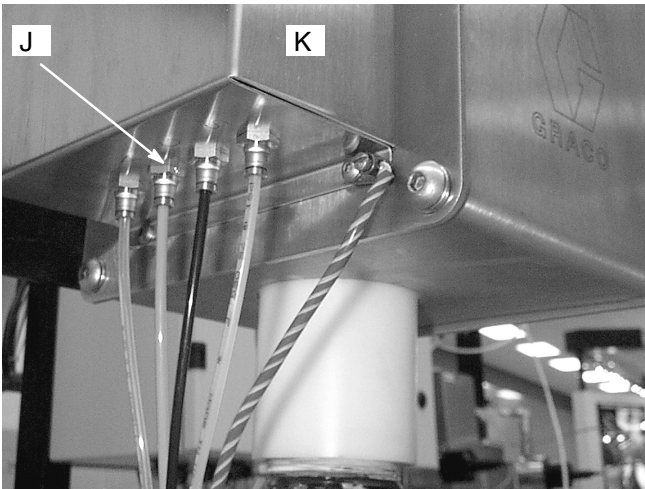

Fig. 7
2. Remove the four screws that hold the cover (K) to the Gun Flush Box. See Fig. 7.
3. Force the cylinder triggers on by connecting air to port C (J). See Fig. 7. Turn on the air to extend both cylinders.